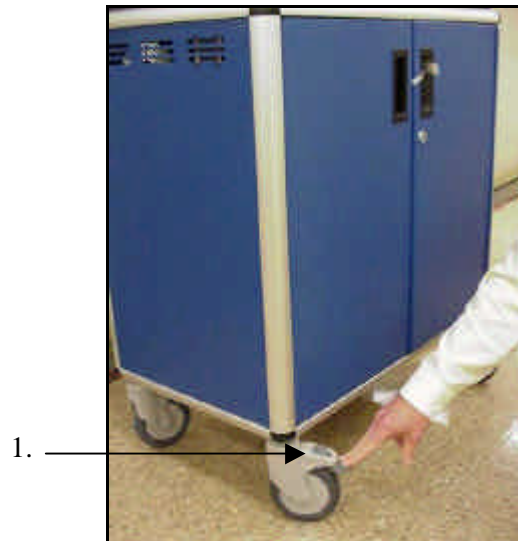

Figure 4: Locking the wheels
1. Lock all four wheels by pushing down on the locking levers (**Figure 4**).